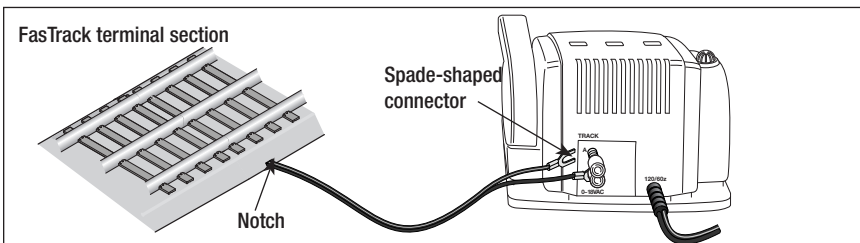

Figure 4. Controller connections
- 1. Feed the wires through the notch in the FasTrack terminal section.** Refer to Figure 4.